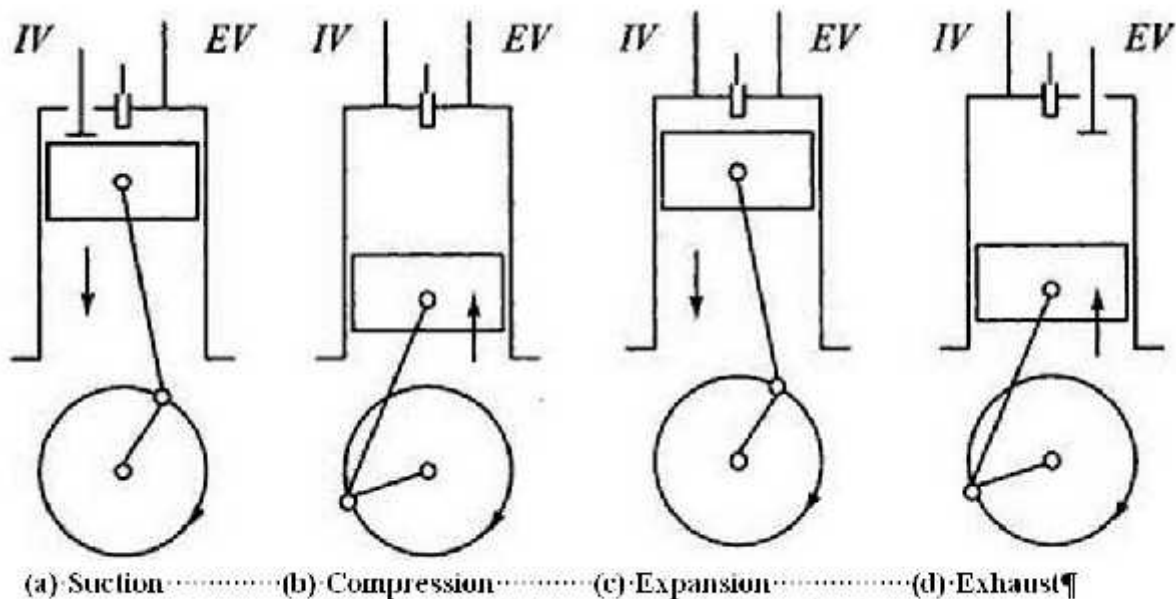

Fig: 5 Cycle of Operation of a CI Engine
- (i) **Suction Stroke:** Air alone is inducted during the suction stroke. During this stroke intake valve is open and exhaust valve is closed, Fig: 5(a). Process (0-1) in p-V diagram Fig:6 shows the suction process at constant pressure. The piston moves from Top Dead Centre (TDC) to Bottom Dead Centre (BDC).
- (ii) **Compression Stroke:** Air inducted during the suction stroke is compressed into the clearance volume. Both valves remain closed during this stroke, Fig: 5(b). Process (1-2) in p-V diagram Fig:6 shows the adiabatic compression of air. The piston moves from B.D.C. to T.D.C. and air is compressed.
- (iii) **Expansion Stroke:** Fuel injection starts nearly at the end of the compression stroke. The rate of injection is such that combustion maintains the pressure constant in spite of the piston movement. After the injection of fuel is completed (i.e. after cut-off)(process 2-3), the products added of combustion expand adiabatically as shown by process 3-4 on p-V diagram in Fig:6. Both the valves remain closed during the expansion stroke, Fig. 5(c). The piston moves from T.D.C. to B.D.C.
- (iv) **Exhaust Stroke:** The piston travelling from BDC to TDC pushes out the products of combustion. The exhaust valve is open and intake valve is closed during this stroke, Fig. 5(d). The ideal p-V diagram is shown in Fig: 6